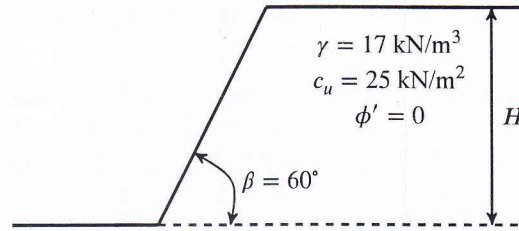

Figure 5: for QUESTION 9(b)
9. (a) Discuss the different modes of failure of finite slopes with circular failure surface. Also discuss the types of failure circles associated with each mode of failure. (4)
- (b) A cut slope in saturated clay (Fig. 5) makes an angle of 60° with the horizontal. (3 + 3 = 6)
5. Fig. 5 shows a grid $oabcdef$ whose joint a deflects 0.10' downward due to the applied distributed loads. Use Stiffness Method to calculate the distributed loads (w_0 k/ft) as well as the deflection at joint o